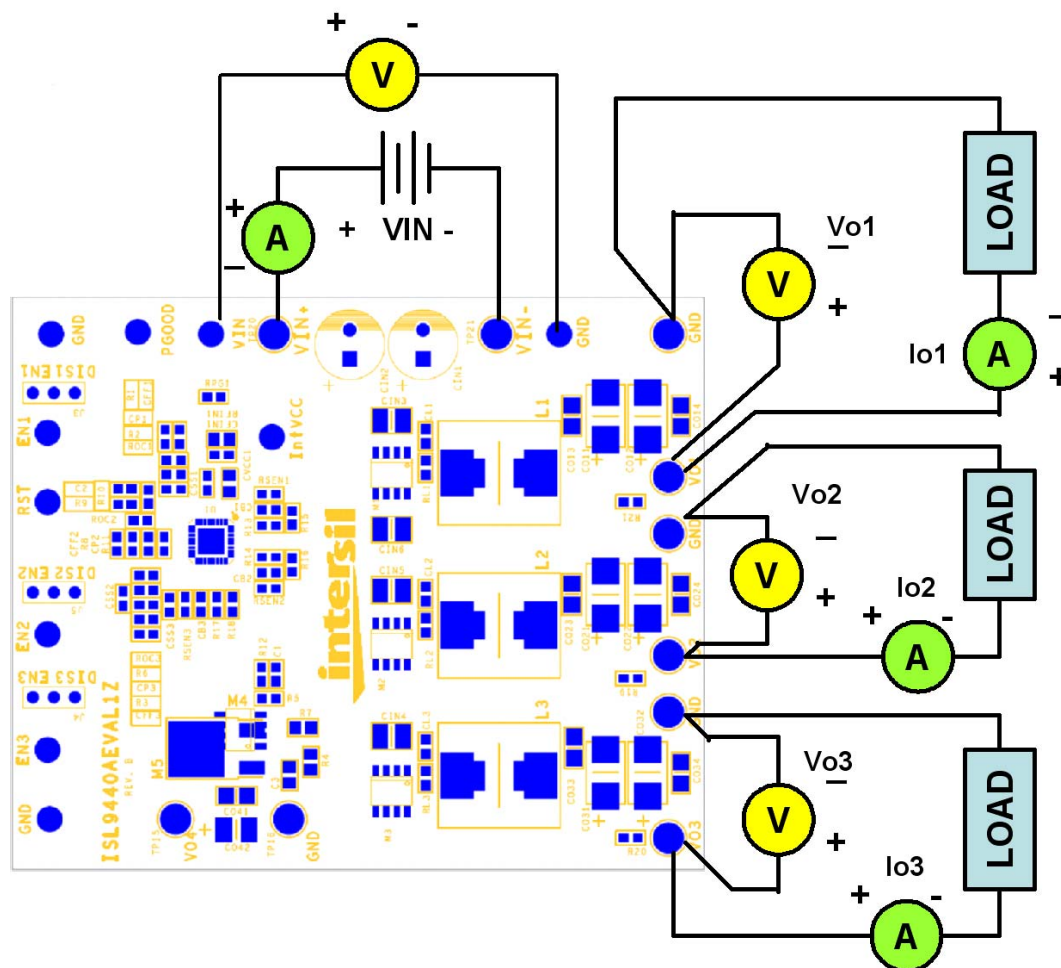

FIGURE 2. PROPER TEST SET-UP
1. Ensure that the circuit is correctly connected to the supply and electronic loads prior to applying any power. Please refer to Figure 2 for proper set-up.